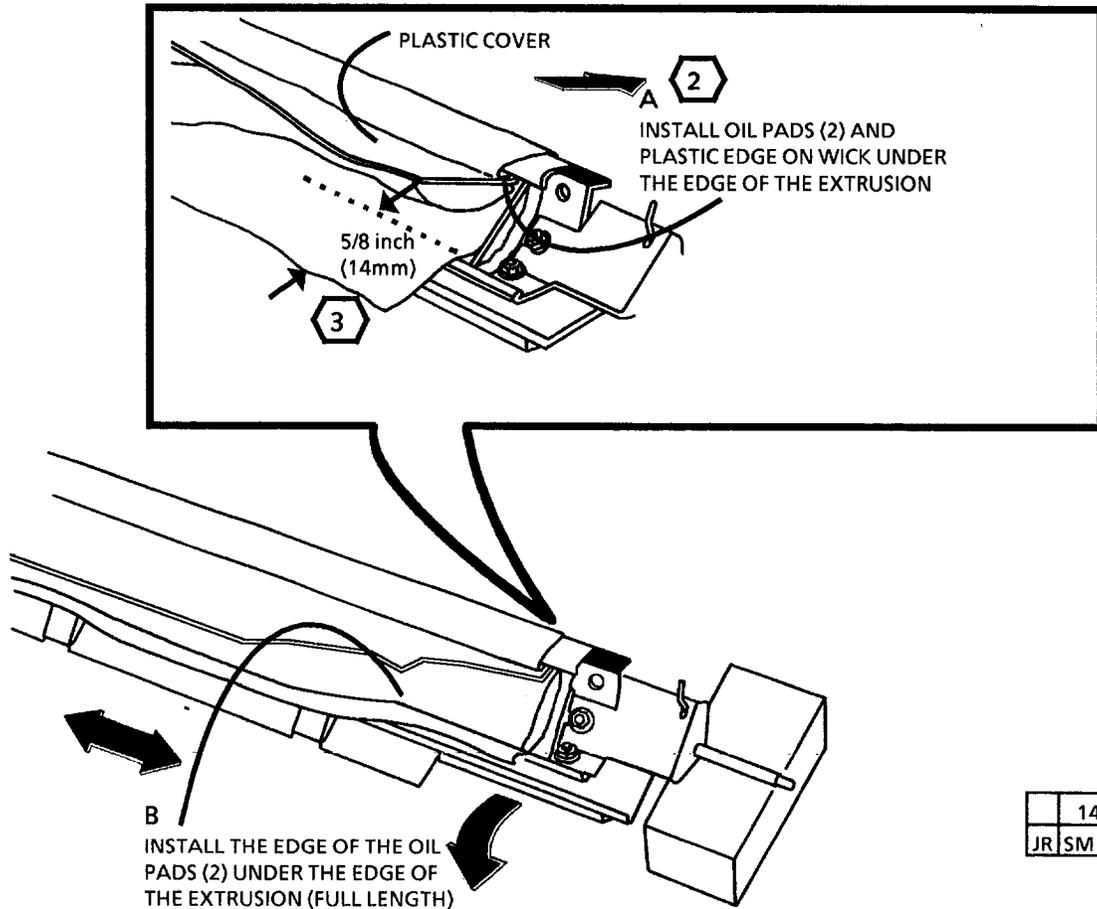

Figure 4. Install the New Oil Pads
2. (FIGURE 4): INSTALL THE OIL PADS.